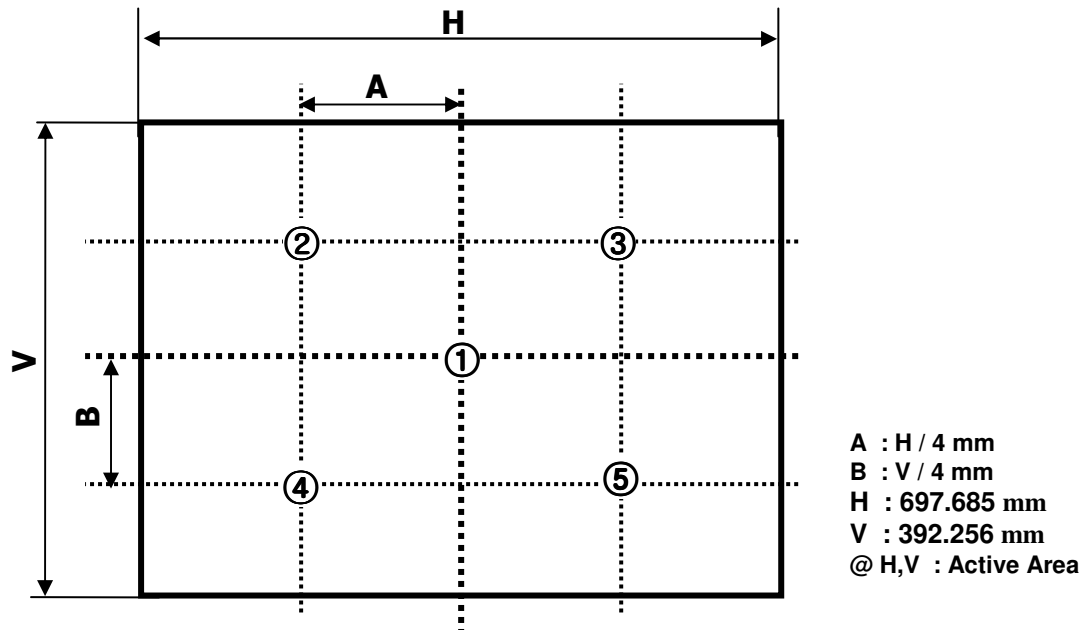

FIG. 2 The Position of Points for Luminance Measure
n = the Position number(1, 2, 3, 4, 5), For more information, see FIG 2.
2. Surface Luminance(L_{WH}) is the luminance value at center 1-point across the LCD surface 50cm from the surface with all pixels displaying white. For more information see the FIG. 2.
For more information, see the FIG. 2.